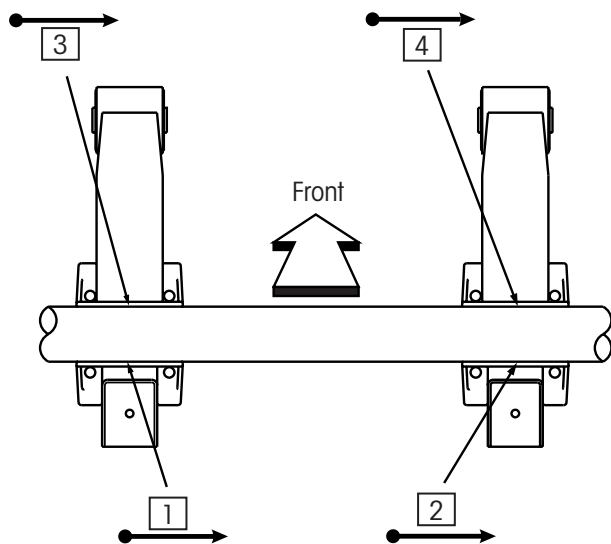

Figure 5b. Root pass sequence
1. Beginning on the rear side of the axle/seat connection, place four single root pass welds (Figure 5b).